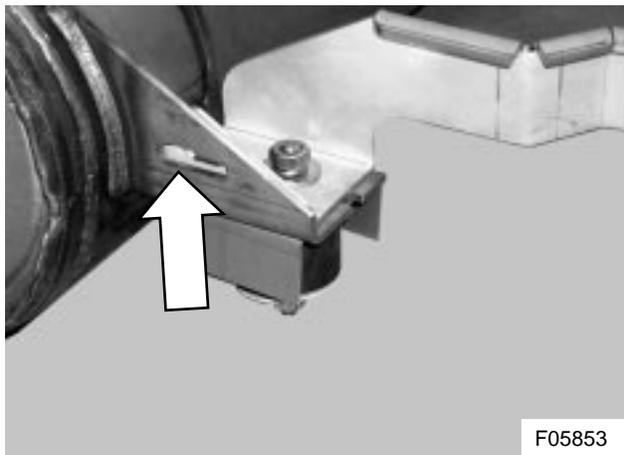

Figure 13: Mark slot here, using the bracket as a template
- 2) Install the support bracket as shown in Figure 13. Mark the slot indicated by the arrow on the muffler mounting bracket with a scribe. Remove the support.